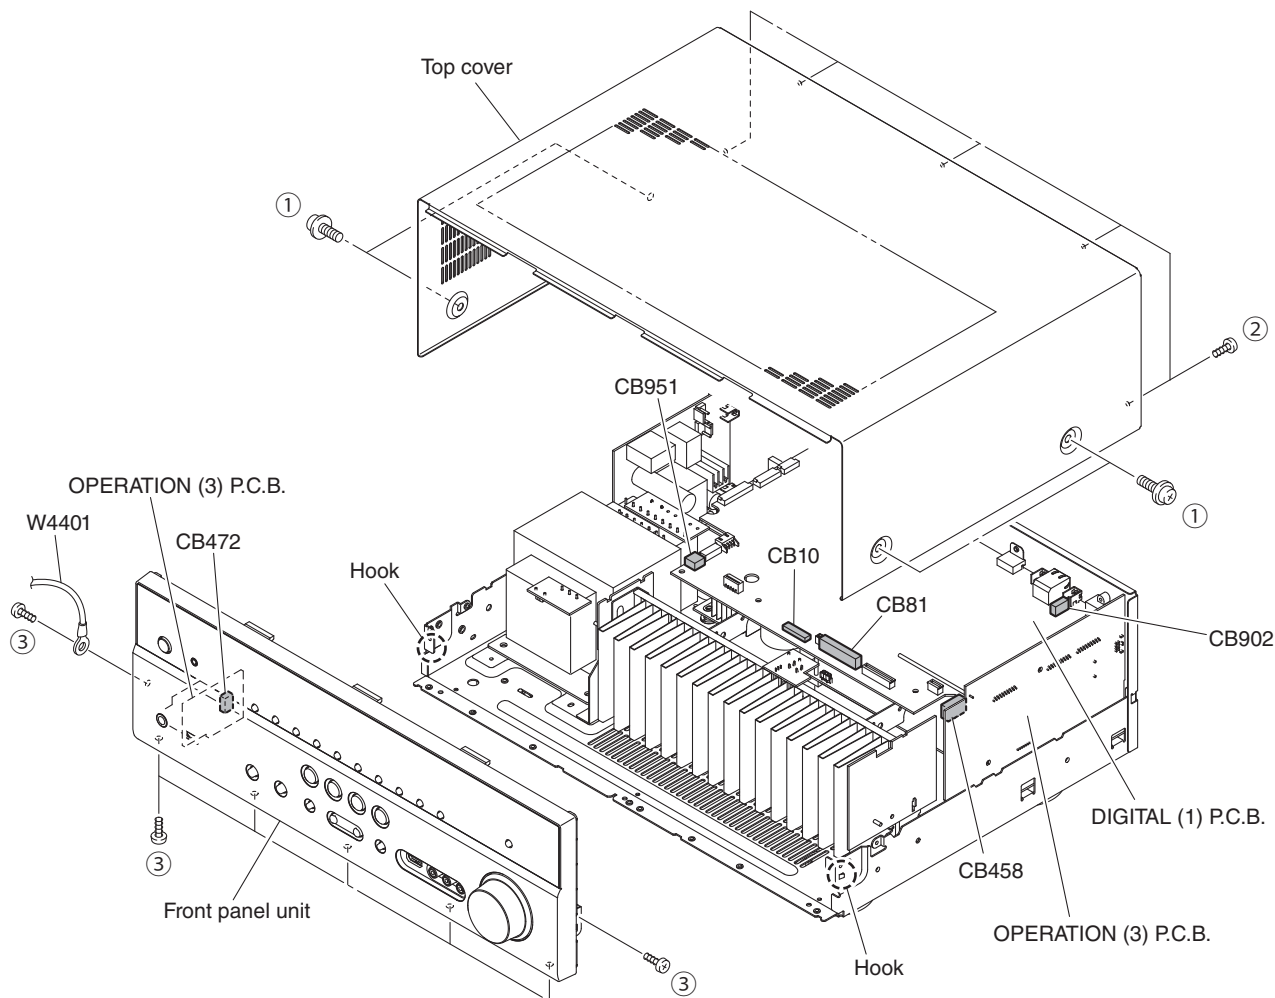

Fig. 1
- Remove 4 screws (①) and 5 screws (②). (Fig. 1)
- Remove 7 screws (③), and remove W4401. (Fig. 1)
- Remove CB10, CB81, CB458, CB472, CB902 and CB951 (Fig. 1)
- Release 2 hooks, and remove the front panel unit. (Fig. 1)